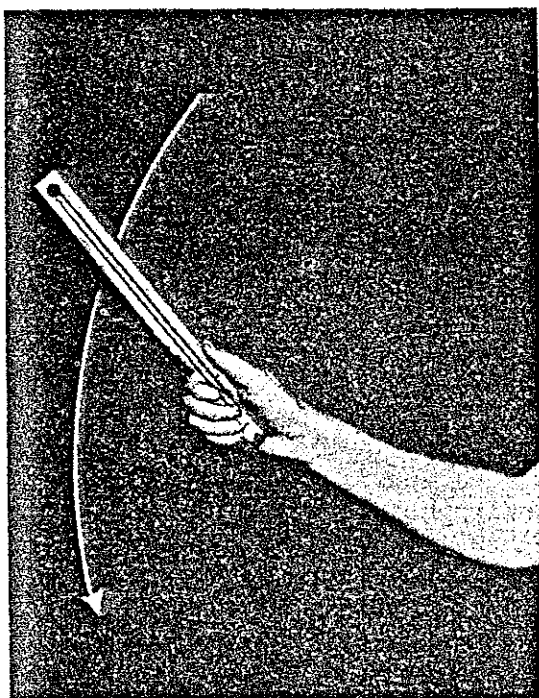

Fig. 2
- (2) Hold thermometer overhead (bulb end upward) securely by edge of metal back and a little above the mid-point toward the high-temperature end. Avoid pressure on stem. Quickly swing thermometer downward through an arc of 3 or 4 feet (see Fig. 2), stopping motion rapidly as thermometer approaches the vertical. Repeat as necessary.
- (3) Pass a strong cord through hole in top of metal back. Tie ends securely. Firmly grasp the cord 6 to 8 inches from thermometer and whirl it rapidly. Inspect the cord as frequently as necessary to insure that the metal back does not cut the cord as the thermometer is whirled.